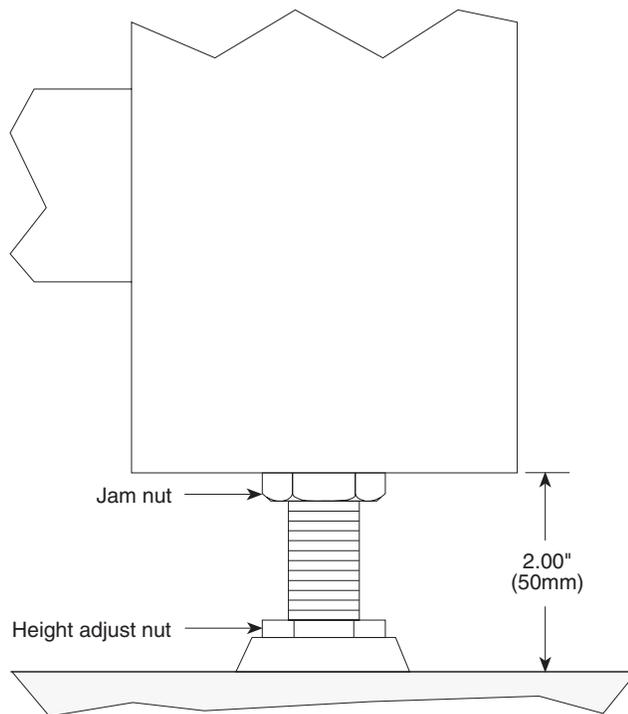

Figure 2.1 — Leveling Pad Adjustment
- B. Adjust the leveling pads on the bottoms of the legs (figure 2.1). Rotate the pads until approximately $\frac{3}{8}$ inch (9 mm) of thread remains outside the leg.
- A. Adjust the four leveling pads (figure 2.1) until the table top contacts evenly on all four of the legs and does not rock when pressed down on at any of the four corners.